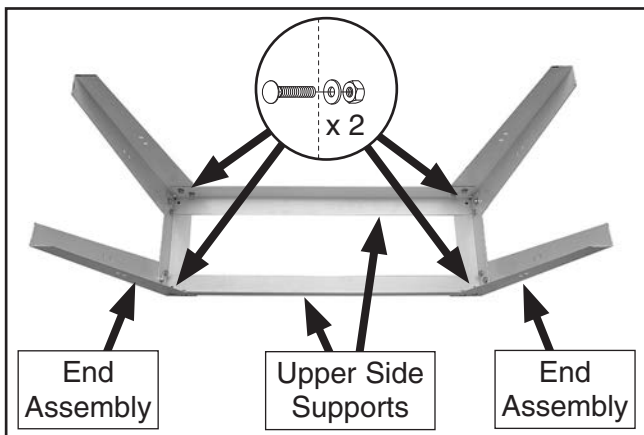

Figure 13. Stand assembly built.
2. Attach (2) upper side supports to end assemblies from **Step 1** with (8) M8-1.25 x 12 carriage bolts, (8) 8mm flat washers, and (8) M8-1.25 hex nuts (see **Figure 13**). DO NOT fully tighten fasteners yet.